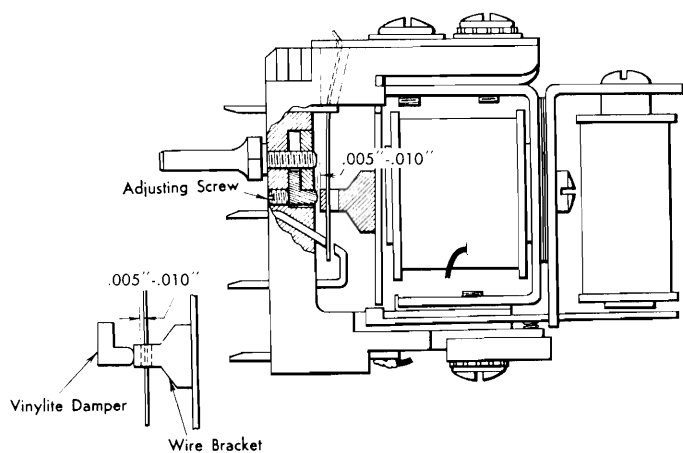

Figure 25. Adjustment 6
6. Figure 25. The damper screw should be adjusted to allow .005" to .010" movement between the vinylite damper and the wire bracket before the wire bracket can move any contact wire. If the screw is loosened,